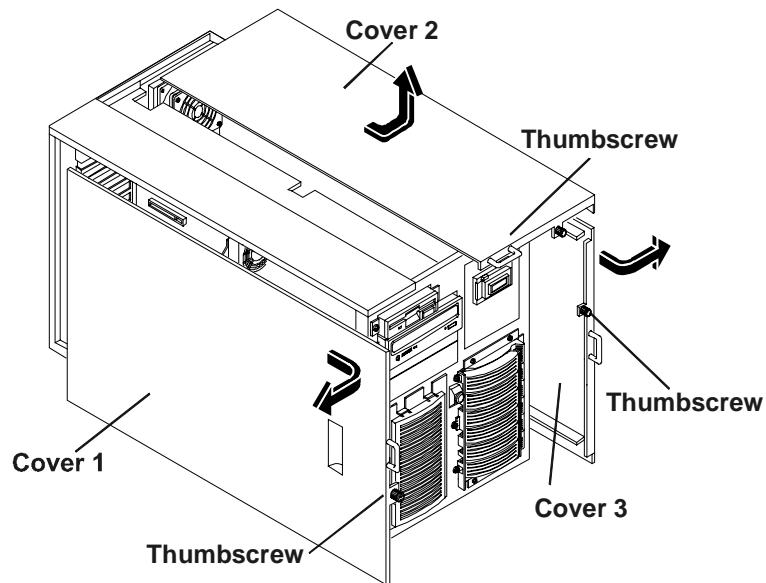

Figure 3-9. HP NetServer LH 3000 Covers
3. Once you have removed the bezel, remove Cover 1 by loosening the thumbscrew and then pulling the cover forward to disengage it. Lift it outward and away from the chassis (see Figure 3-9).